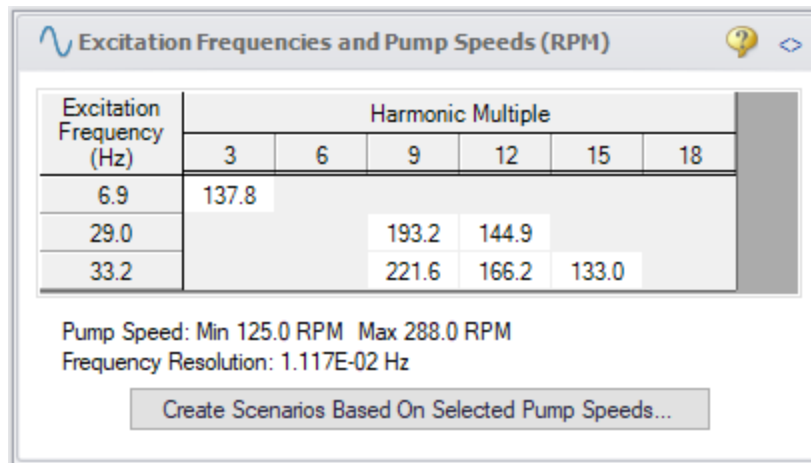

Figure 14: Pump RPM Evaluation Panel with Excitation Frequencies and their Harmonic Multiples Displayed
- e. Repeat steps a through c for the local maxima at the frequencies of 28.98 Hz and 6.89 Hz. Figure 14 shows the Pump RPM Evaluation Panel with the excitation pump speeds displayed.